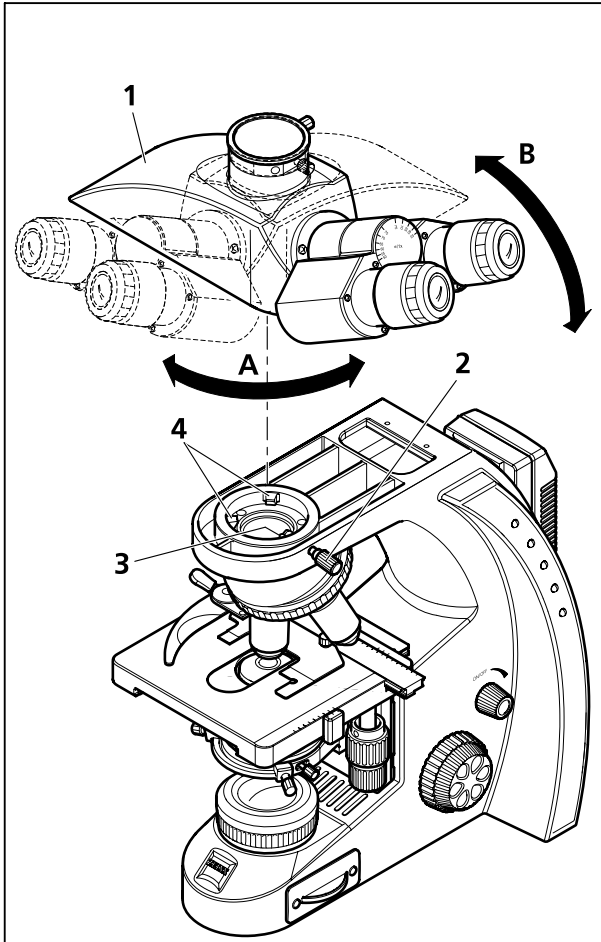

Fig. 11 Changing the tube
- Loosen clamp screw (Fig. 11/2), turn the installed tube (Fig. 11/1) clockwise by approximately 90° (Fig. 11/A) and on the right side take it off upward (Fig. 11/B).
- Insert the tube to be installed, with the eyepieces pointing to the right and its dovetail mount slightly inclined, under the two holding elements (Fig. 11/4) in the stand.
- Then, place the tube horizontally onto the stand. In doing so, the groove on the underside of the tube must be located above the third holding element (Fig. 11/3) of the stand.
- Turn the tube counterclockwise by 45° (eyepieces pointing forward), align it to the stand and tighten clamp screw (Fig. 11/2).